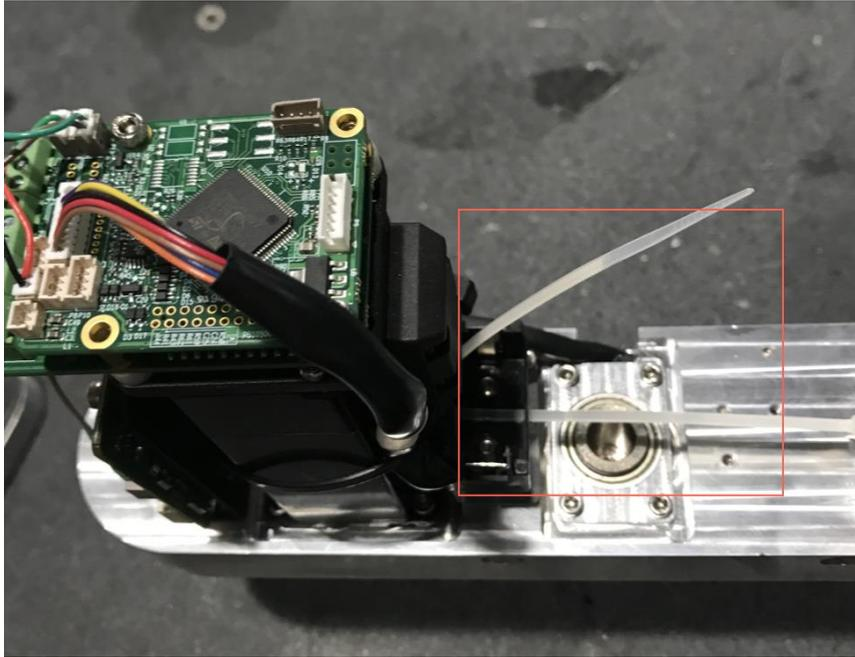

Figure 7.13 Insert wire tie
- Step 7** Insert the wire tie to the battery holder on Forearm to fix battery, as shown in Figure 7.13.